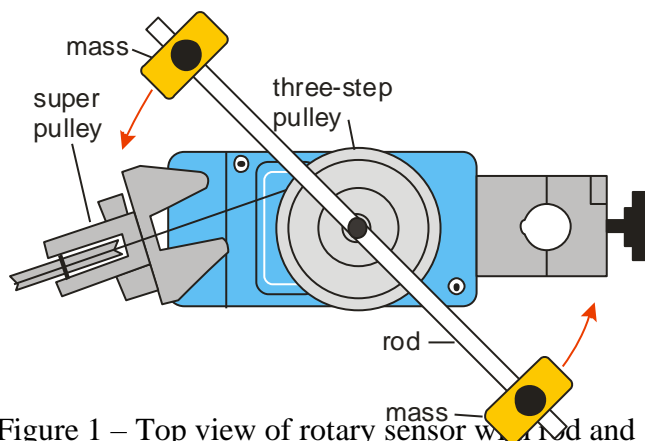

Figure 1 – Top view of rotary sensor with rod and two small masses.
3. Mount the rotary sensor as shown in Figure 1. For this part mount the rod *without the two masses*. Hang a 20 g mass on the free end of the thread that is attached to the three-step pulley. Wrap the thread a few times around the middle wheel of the three-step pulley and then drape the thread over the super pulley. Make sure the pulley is aligned so that the thread lines up with the groove of the super pulley. Also, make sure that the thread connecting the two pulleys is horizontal. Hold the mass
- Next, you want to verify that the moment of inertia for a point mass is determined by equation 3. Mount two masses at the ends of the rod as shown in figure 1. Using a ruler measure the *distance from the axis of rotation to the center of mass of each mass*. Record this value as distance R in the spreadsheet below. Make sure that the masses are at the same distance from the axis of rotation. Now repeat steps 3 and 4. However, in step 3, use a 50 g mass instead of the 20 g mass.